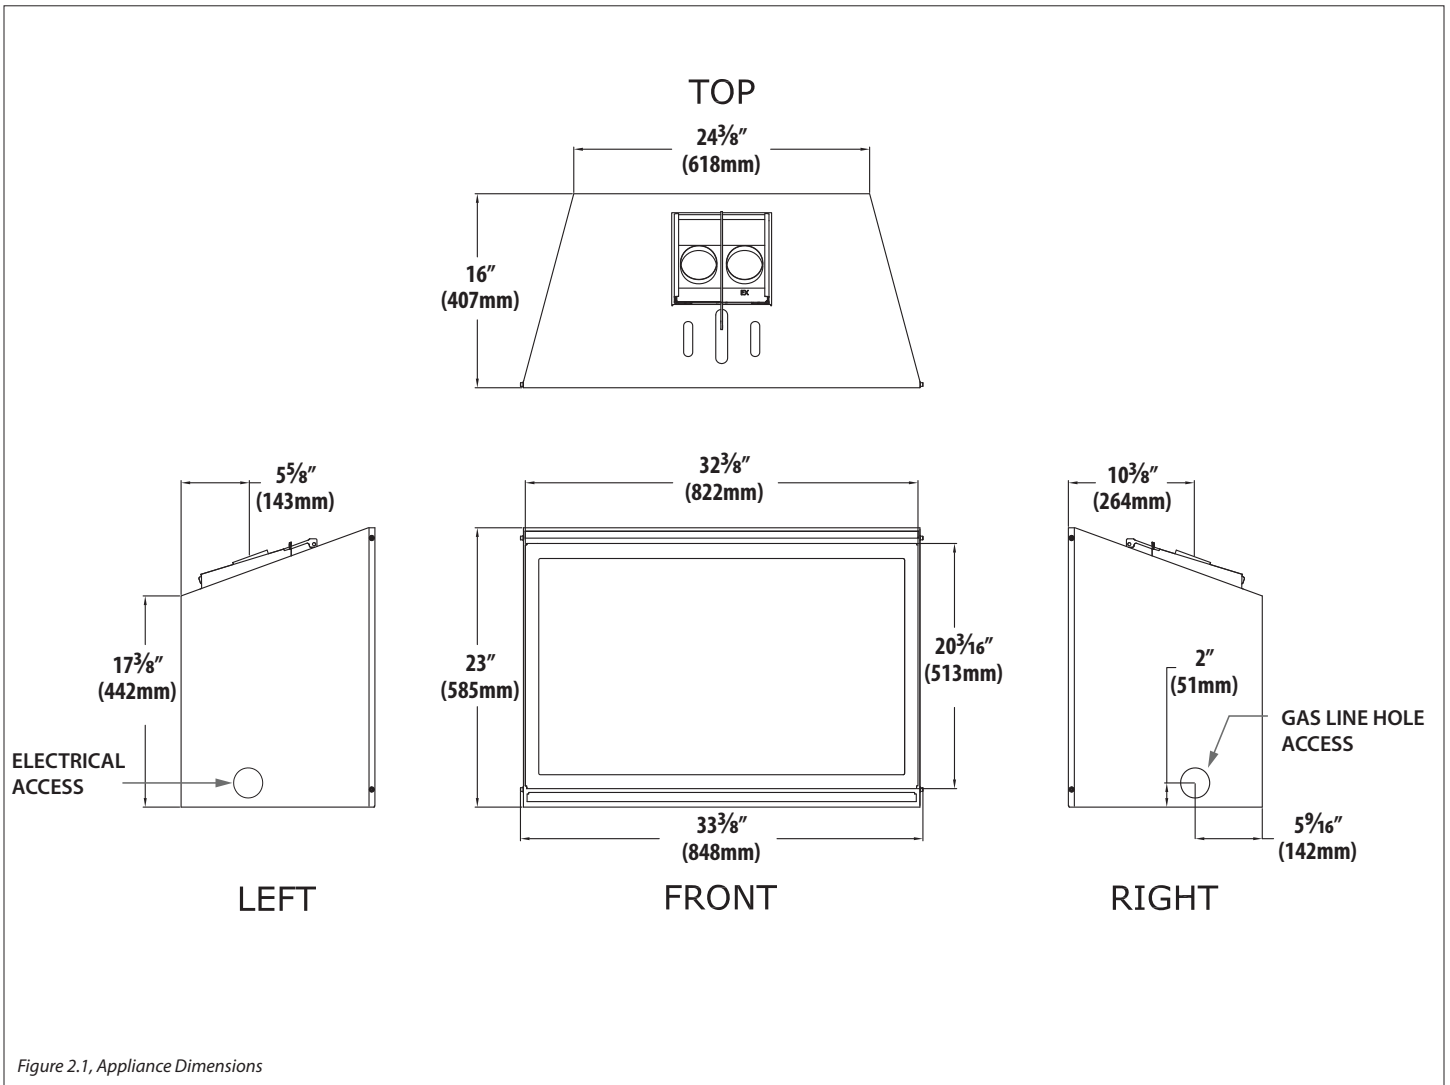

Figure 2.1, Appliance Dimensions
- A gas line must be able to be installed to the fireplace insert. Please refer to Figure 2.1, Appliance Dimensions on page 9. The gas line access hole is located on the right side of the insert.
- (A) Height23-1/2" (597mm)
- (B) Front Width33-1/2" (851mm)
- (C) Depth16-3/8" (419mm)
- (D) Back Width24-1/2" (622mm)